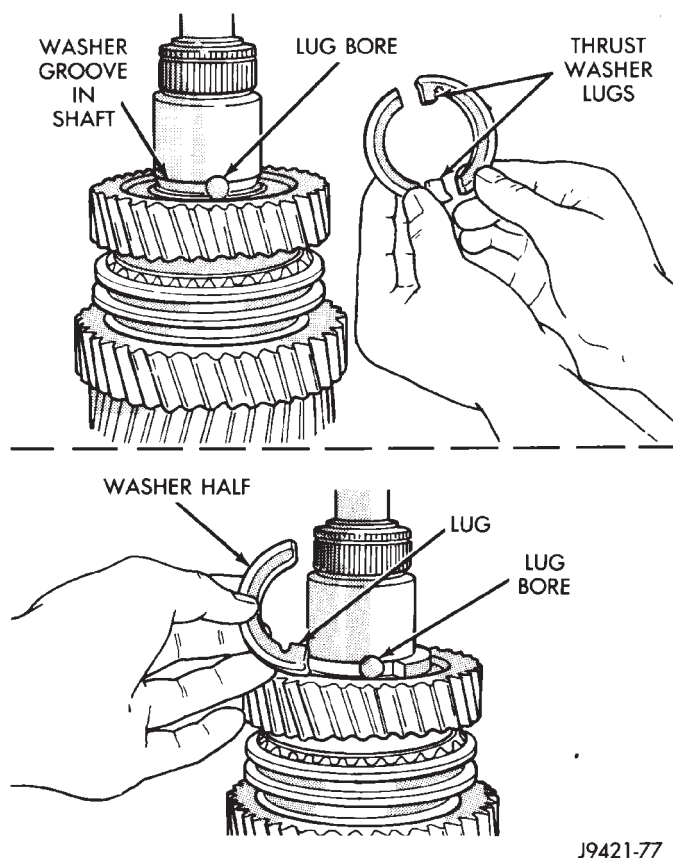

Fig. 70 Installing Two-Piece Thrust Washer
(24) Install two-piece thrust washer (Fig. 70). Be sure washer halves are seated in shaft groove and that washer lugs are seated in shaft lug bores. Also, ensure that the i.d. grooves and markings noted during removal are facing the correct direction.